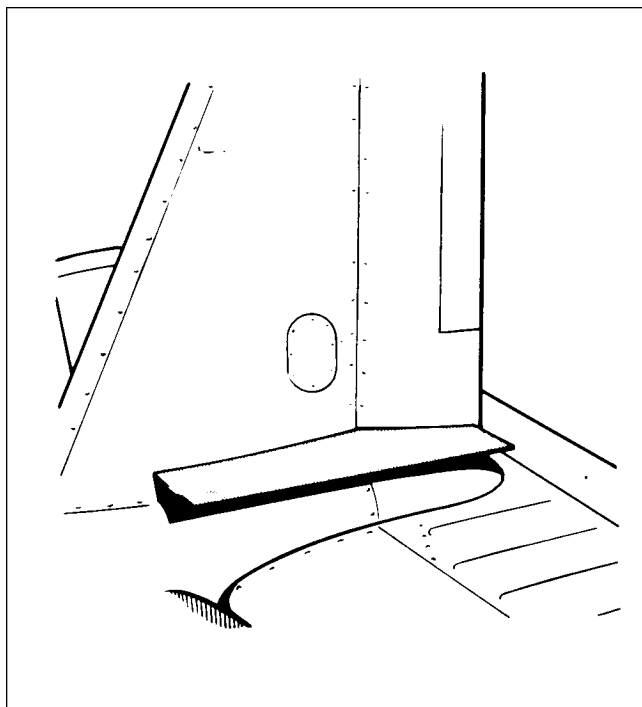
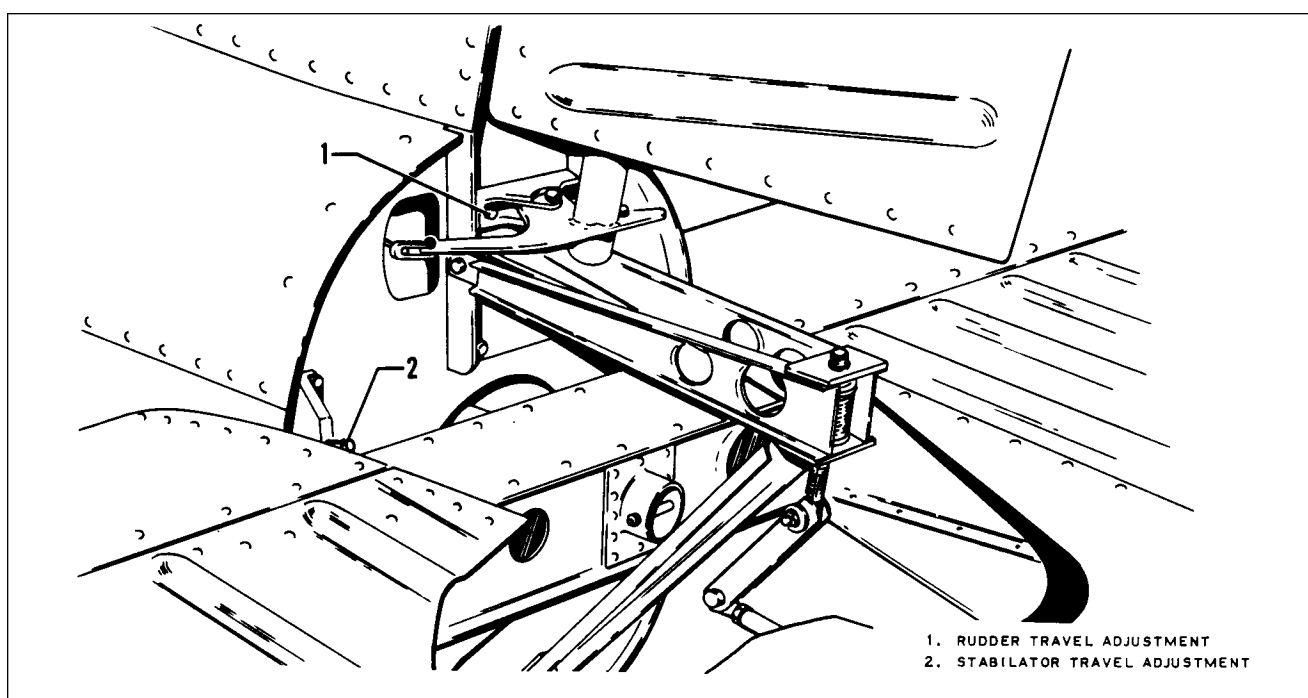

Figure 5-11. Rudder Rigging Tool
Figure 5-13. Rudder and Stabilator Travel Adjustments
2. With the rudder against its stop, place a rigging tool against the side of the rudder and vertical stabilizer as shown in Figure 5-11. (Ascertain that the tool is not contacting any rivets.) If no gap exists between the rigging tool and the surface of the rudder and vertical stabilizer, the rudder stop for one direction of travel is correct as required in Table V-I. (This tool may be fabricated from dimensions given in Figure 5-13.)
4. Should the rudder travel be incorrect showing a gap between the tool and any part of the control surfaces, the tail cone fairing should be removed and the stops reset to obtain correct rudder travel. (Refer to Figure 5-13.)